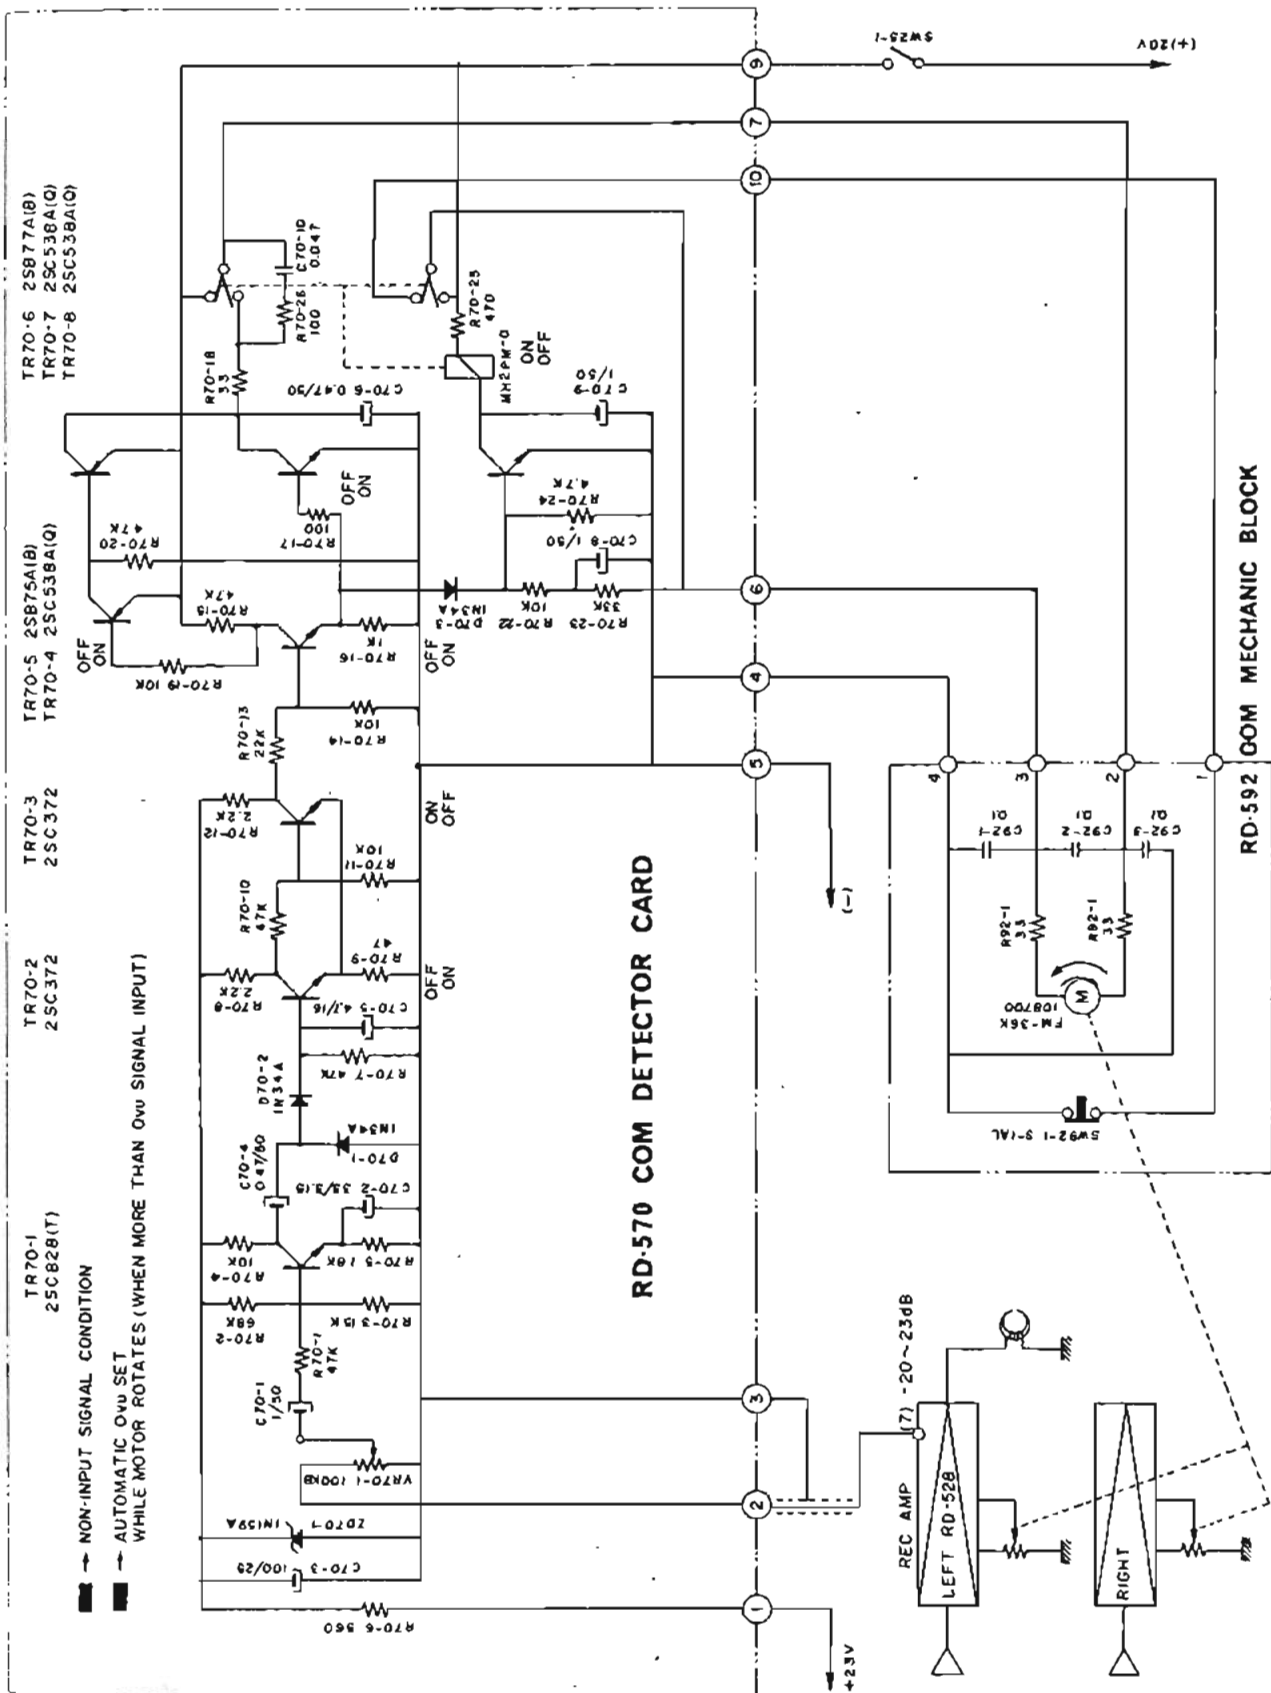

Fig. 10
- a) By depressing the Set Button (SW25-1) with no input signal applied to Line Input or Microphone Jacks, current flows to the Comput-O-Matic Motor through the Relay (MH2PM-0) (a normally closed contact) and the Microswitch (SW92-1), causing the Motor to rotate in the direction indicated by the blue line in Figure 10.
As current is cut off, Bias Voltage is applied to Transistor TR70-8, through R70-23 and R70-22, actuating TR70-8. As TR70-8 is actuated ("ON") collector current flows through the Relay Coil MH2PM-0, engaging the Relay. However, when no input signal is applied, current does not flow to the Motor because Transistor TR70-7 is inoperative (OFF), as shown in Figure 10.
- b) Under conditions as described above, but when input signals are applied to the Line Input or Microphone Input Jacks (for input signals level of 0 VU or greater) the function of Transistors are as shown by the red print in Figure 10. As TR70-7 is actuated, TR70-7 collector current flows through the Motor, causing the Motor to rotate in the direction indicated by the red arrow in Figure 10.
When the signal level to the Recording Amplifier is reduced to 0 VU, the conditions of the COM Detector Card Transistors are again as indicated in blue print in Figure 10, TR70-7 is cut off and the Motor stops.